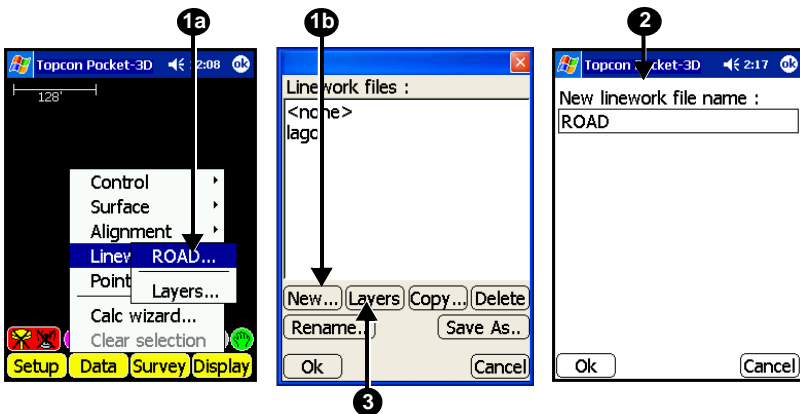

Figure A-23. Create Linework File
1. Tap **Data** ▶ **Linework** ▶ [**<none>** or file name]. Press **New** (Figure A-23).